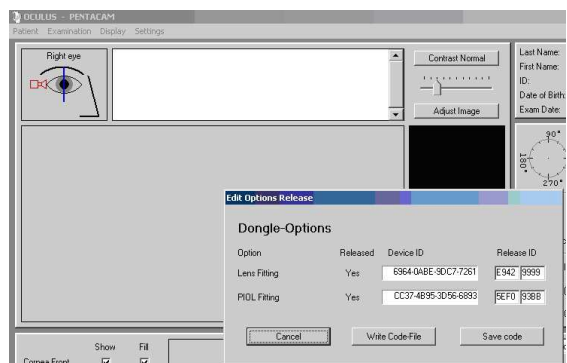

Figure 34, Release of optional software modules
- The window shown in Figure 34 is already open and the generated release can now typed in. Of course the Pentacam or USB-license key have to be connected.